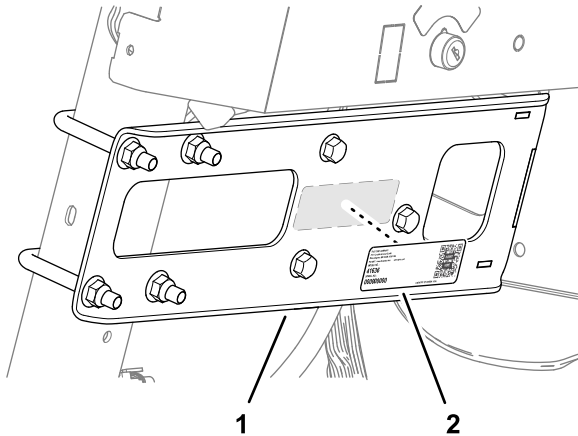

Figure 77
2. Affix the decal to the manifold mount as shown in Figure 77.